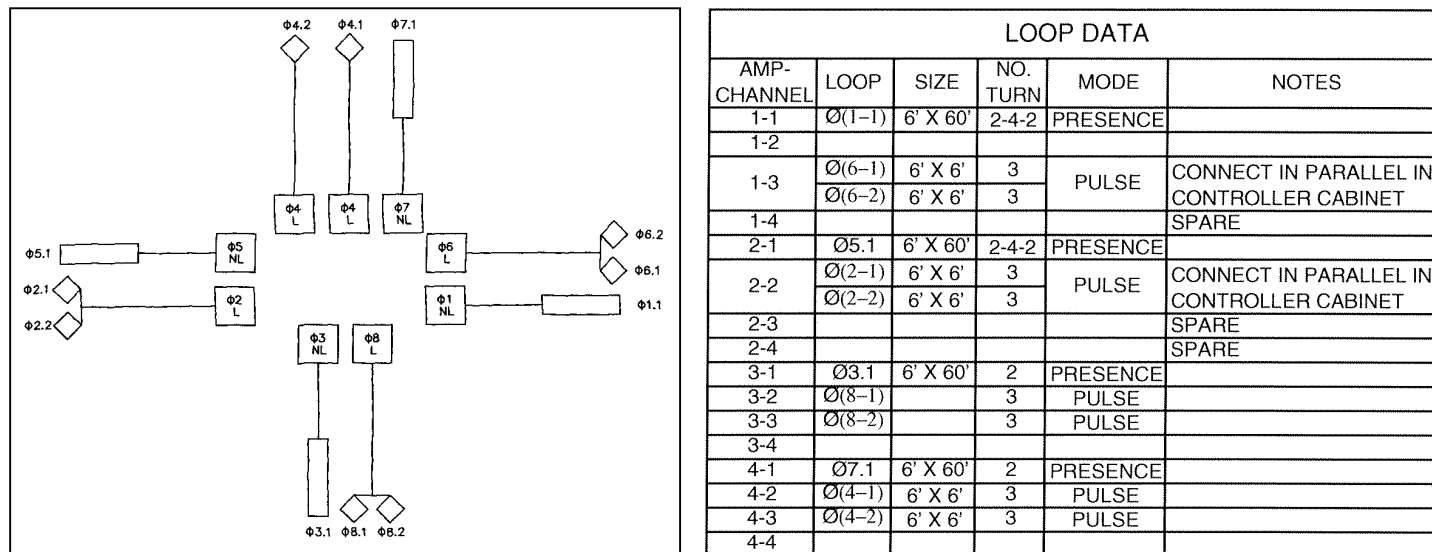

Figure 4-1: LOOP DETECTOR CHARTS
- Create a Loop Detector Chart; as shown below and in Figure 4-1.